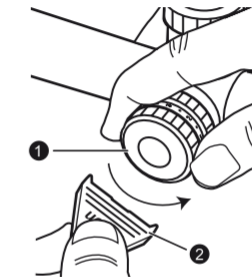

Fig. 3-1
- Hold the rheostat intensity dial tightly and turn the battery-chamber cover **1** counter-clockwise with the battery-chamber cover opener **2** (Fig. 3-1).